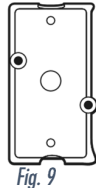

Fig. 9
1. Holding the bracket in the place where it will be mounted, place one of the screws provided in the centre of each of the four small holes on the bracket (Fig. 9) and gently tap it with a hammer to create a small mark. This marks the positions for all four screws on the surface. Remove the bracket.